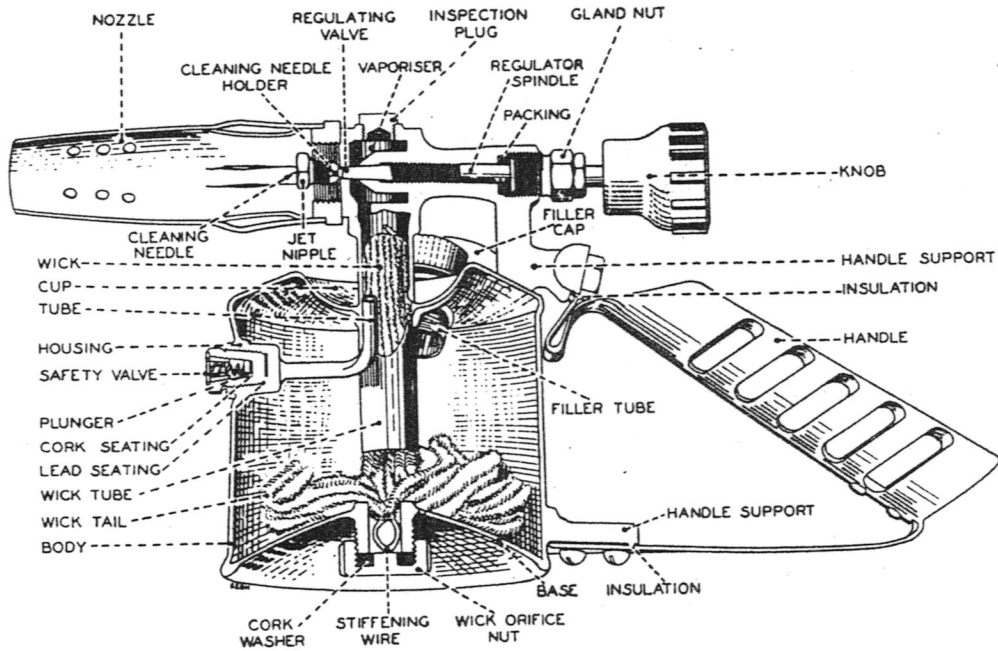

FIG. 2.—LAMP, TORCHBLOWING, No. 1
4. **Lamp, Torchblowing, No. 1.**—Fig. 2 shows a